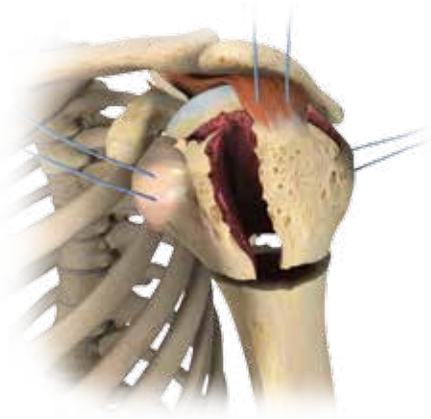

Figure 4
- Place sutures in to the osseotendinous junction of the rotator cuff to reduce the tuberosities (Figure 4).